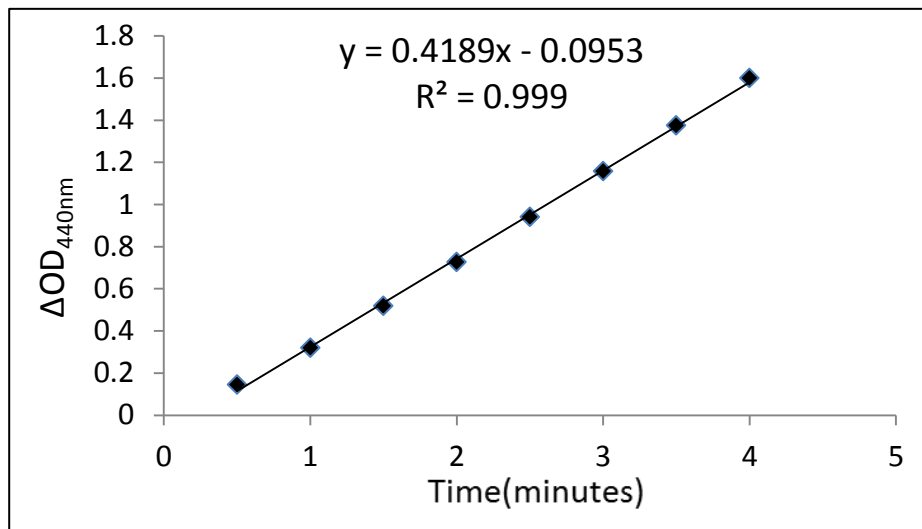

Figure.2 The change in absorbance  $\Delta OD_{440nm}$  of diluted ALDH positive control during the indicated time at 440nm.
1. Determine the change in absorbance  $\Delta OD_{440nm}/min$  by plotting the absorbance value at  $\Delta OD_{440nm}$  as a function of reaction time to obtain the slope of the linear portion of the curve, as shown in Figure.2.